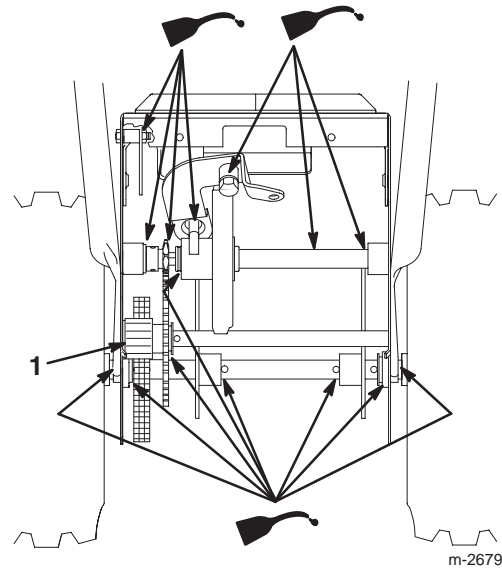

Figure 37
6. Lightly lubricate the snowthrower with light oil as shown in Figures 37 and 38.
8. Lightly grease the axle gear (Fig. 37).